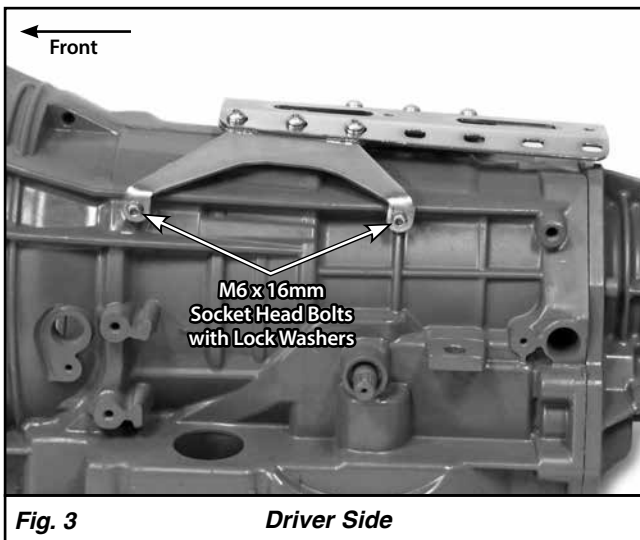
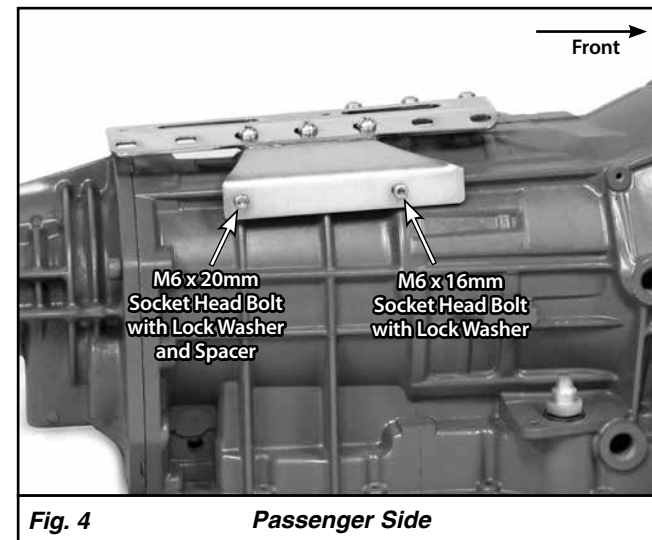

Fig. 3
Fig. 4
Step 3: Position the bracket assembly on the transmission. Both the left side and right side brackets bolt into existing threaded holes in the transmission case. Install an M6 x 16mm socket head bolt with lock washer into both of the mounting holes in the left side bracket, and into the front mounting hole in the right side bracket, but do not tighten any of them yet. **Fig. 3 & Fig. 4**
Step 4: Insert the provided spacer into the gap between the transmission case and the rear corner of the right side bracket, and install the M6 x 20mm socket head bolt with lock washer in that location. **Fig. 4**